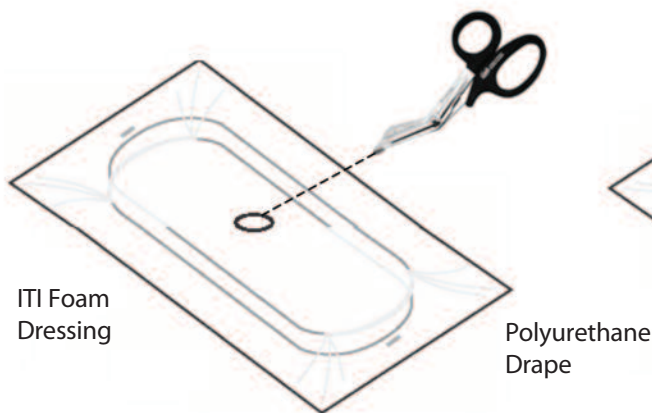

Figure 1
10. Cut a 1 cm diameter hole in the top of the drape at a convenient location over the dressing (see Fig. 1).